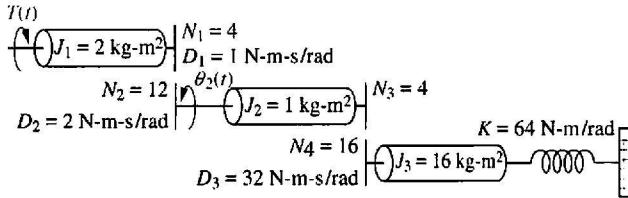

FIGURE P2.19
33. For the rotational system shown in Figure P2.19, find the transfer function, $G(s) = \theta_2(s)/T(s)$. [Section: 2.7]